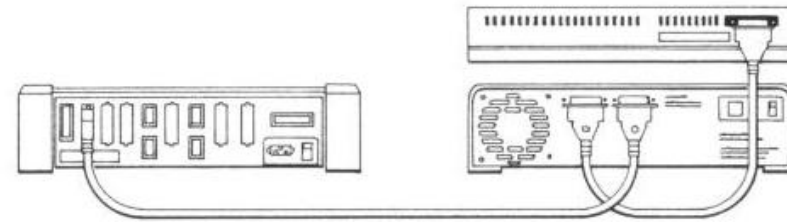

Figure 2-11. Hardware Configuration (Apple //e with DuoDisk)
19. Your hardware configuration so far should appear as illustrated in Figure 2-11.